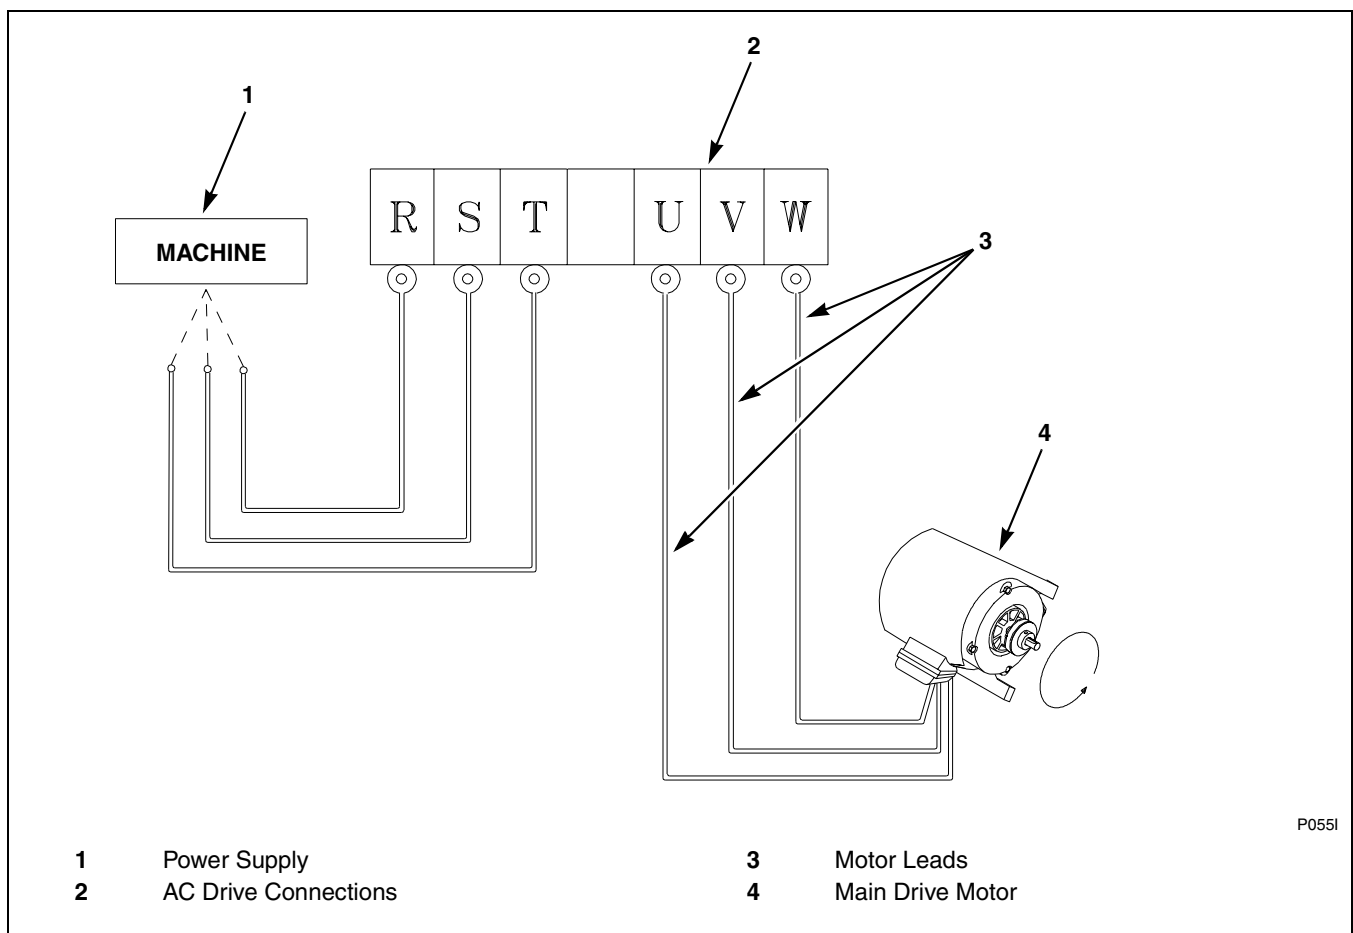

Figure 24
8. Cylinder rotation must be counterclockwise in an extract step for 135 pound and 250 pound models. If rotation is not correct, disconnect power. A qualified electrician must reverse any two leads between the AC drive and the main drive motor. Refer to *Figure 24*.